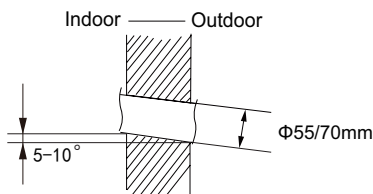

Fig.2
(2) Open a piping hole with the diameter of  $\Phi 55/70\text{mm}$  on the selected outlet pipe position. In order to drain smoothly, slant the piping hole on the wall slightly downward to the outdoor side with the gradient of  $5-10^\circ$ . (As show in Fig.2)